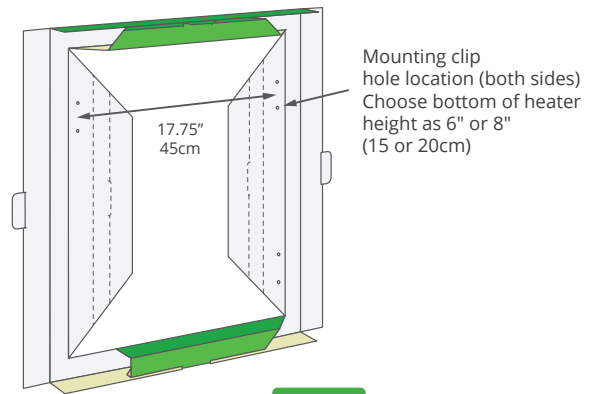

Fig. 1
- 1 Unwrap and flatten the sides of the packaging insert frame (mounting template) and stand the template on the floor. The sides of the template have pre-punched holes to mark the heater mounting height for either 6” or 8” (15 or 20cm) from the bottom of the heater to the floor. Choose either mounting height, and mark two hole locations on the wall. (see Fig. 1). The top two hole locations are for the mounting clips.